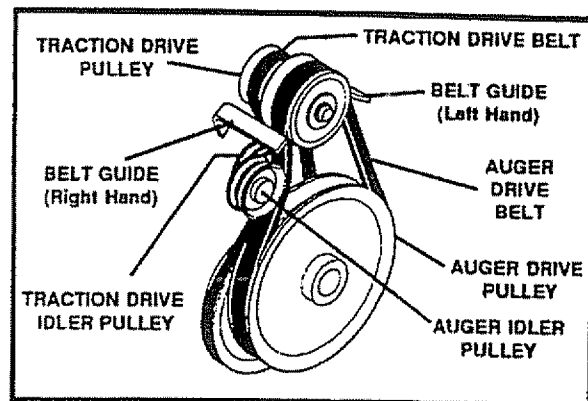

FIG. 27
- Loosen the belt guides (See Fig. 27) and pull away from the drive pulley.
- Loosen belt guides (See Fig. 27) and pull belt guides away from the engine drive pulley.